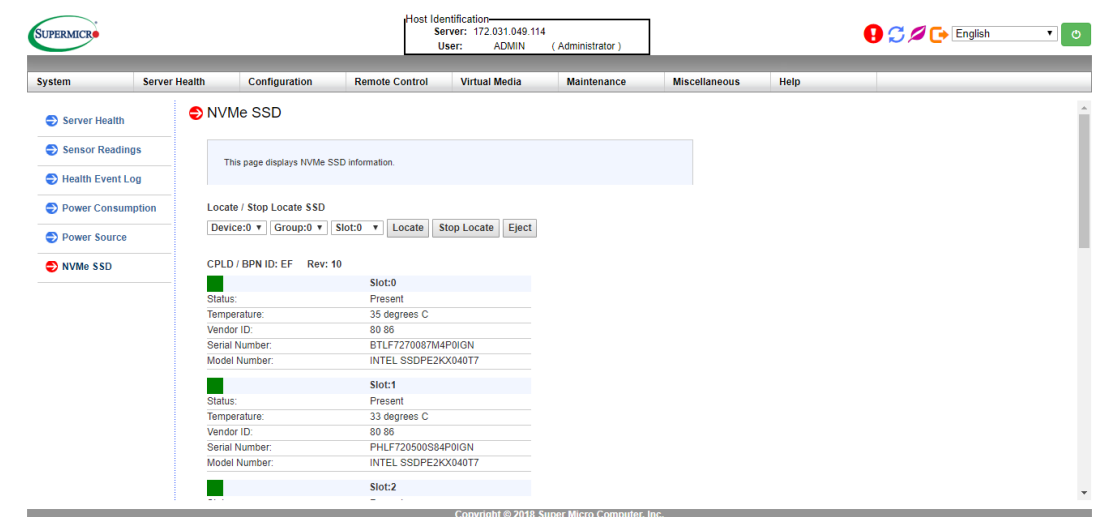

Figure 2-6. IPMI Screenshot
- **IPMI > Server Health > NVMe SSD** – Shows the temperatures of all NVMe drives, as in Figure 2-6.